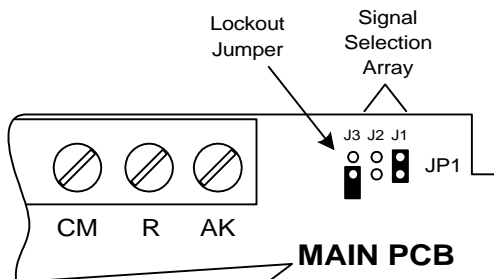

Figure 15. Input Signal Selection Jumper Array J1-J3.
1. Make sure the jumpers on JP1 are set for the desired input. (See Figure 15).